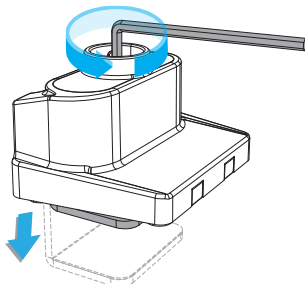

Figure 1
1. Use the **6mm Hex Key** to adjust the **Hex Screw** on the **Desk Clamp**, widening the **Desk Clamp** to match the **Desk Thickness**. (Figure 1)